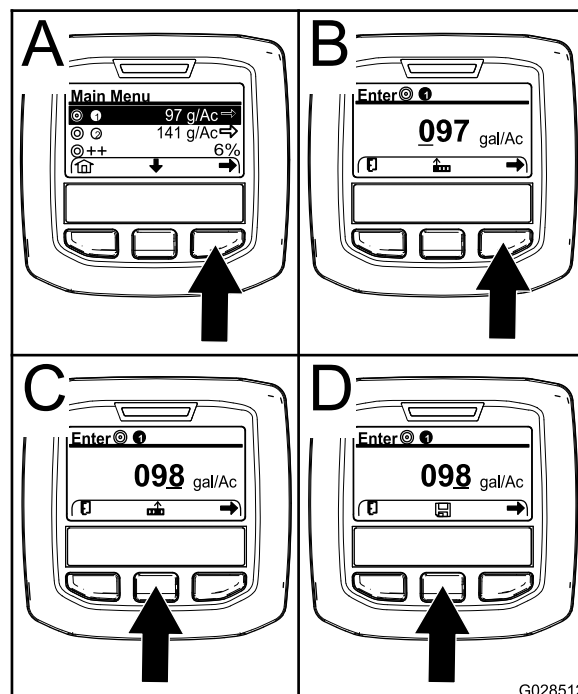

Figure 67
2. If needed, press the center selection button to highlight the application rate for sprayer program 1 (Figure 67).